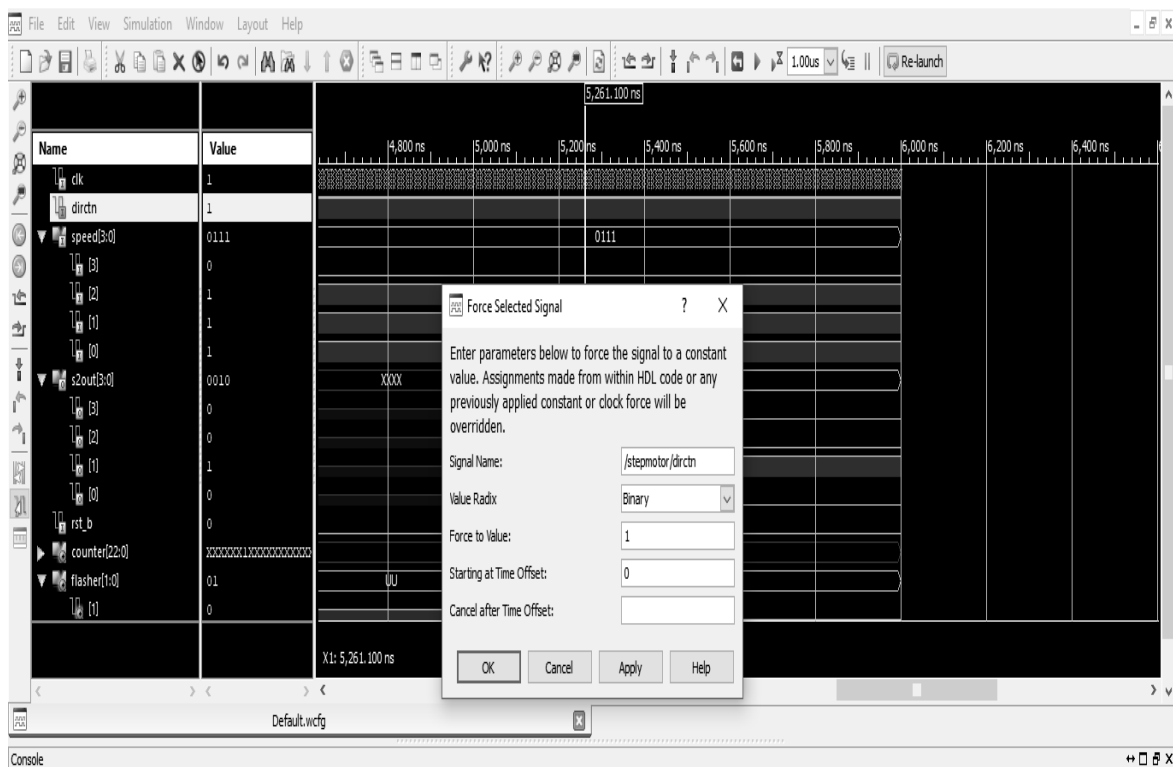

Fig. 15.5: Forcefully to generate simulation output
6. Go to implementation to simulation tab , right click on main source file and create Test Bench file for simulation or directly simulate and apply entity value forcefully as shown in fig.. 15.5.